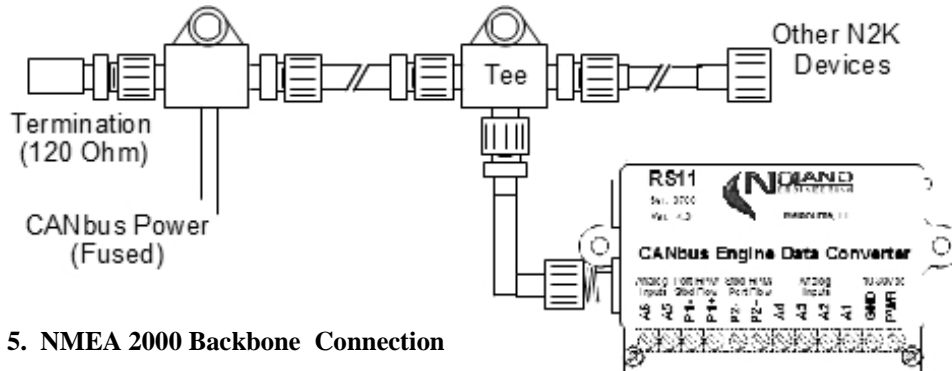

Figure 5. NMEA 2000 Backbone Connection
- Figure 5 - NMEA2000 Backbone Connection
NMEA2000 Connection: The N2K bus is used to send the acquired engine data to appropriate Multi-function Displays. Connection to the bus is via a ‘Micro C’ connector on the side of the RS11. The connection is normally made to an N2K backbone as shown in Figure 5.